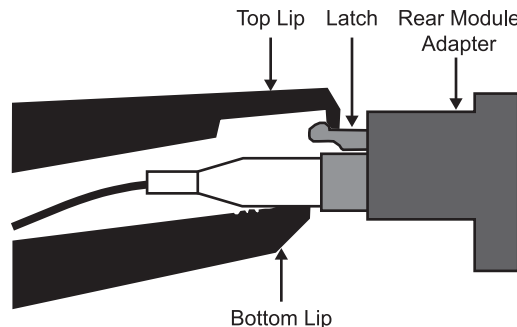

Figure 2.7 Re-positioning the Optic Cable Tool — Single-Latch Connector
6. Re-position the Optic Cable Tool so that the top lip sits behind the latch. (**Figure 2.7**)